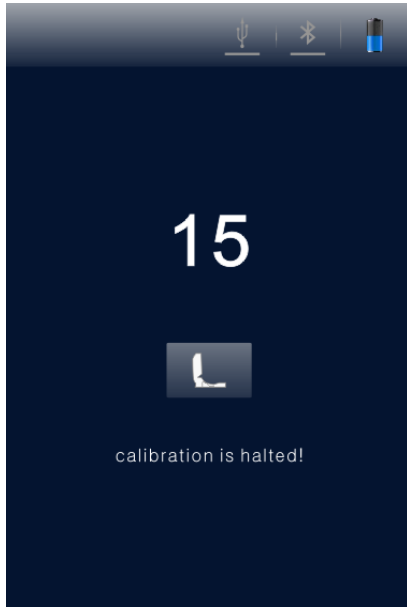

Fig 2.5-2
- c. If the  icon and < **Calibration is halted!** > are displayed on the screen of detector, as shown in figure 2.5-2. Please close the top cover again to continue the calibration process.